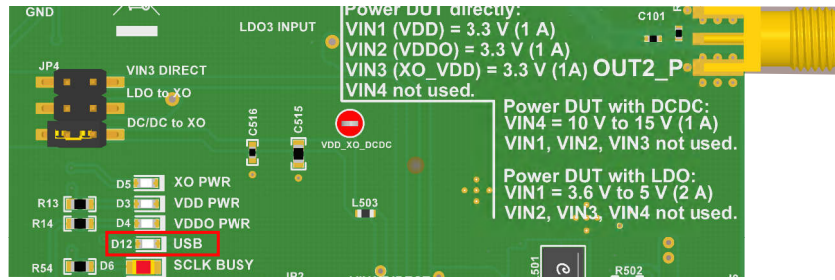

Figure 2-1. USB LED
- iii. Click *Identify* to blink LED shown in Figure 2-1. This confirms you are connected to the board you expect. Be aware that USB2ANY devices connected to the PC but not attached to by a TICS Pro instance can blink at a slow rate of 1 second on, 1 second off continuously. After clicking the *Identify* button, the LED flashes quickly at about 0.5 second on, 0.5 second off for about 5 seconds.